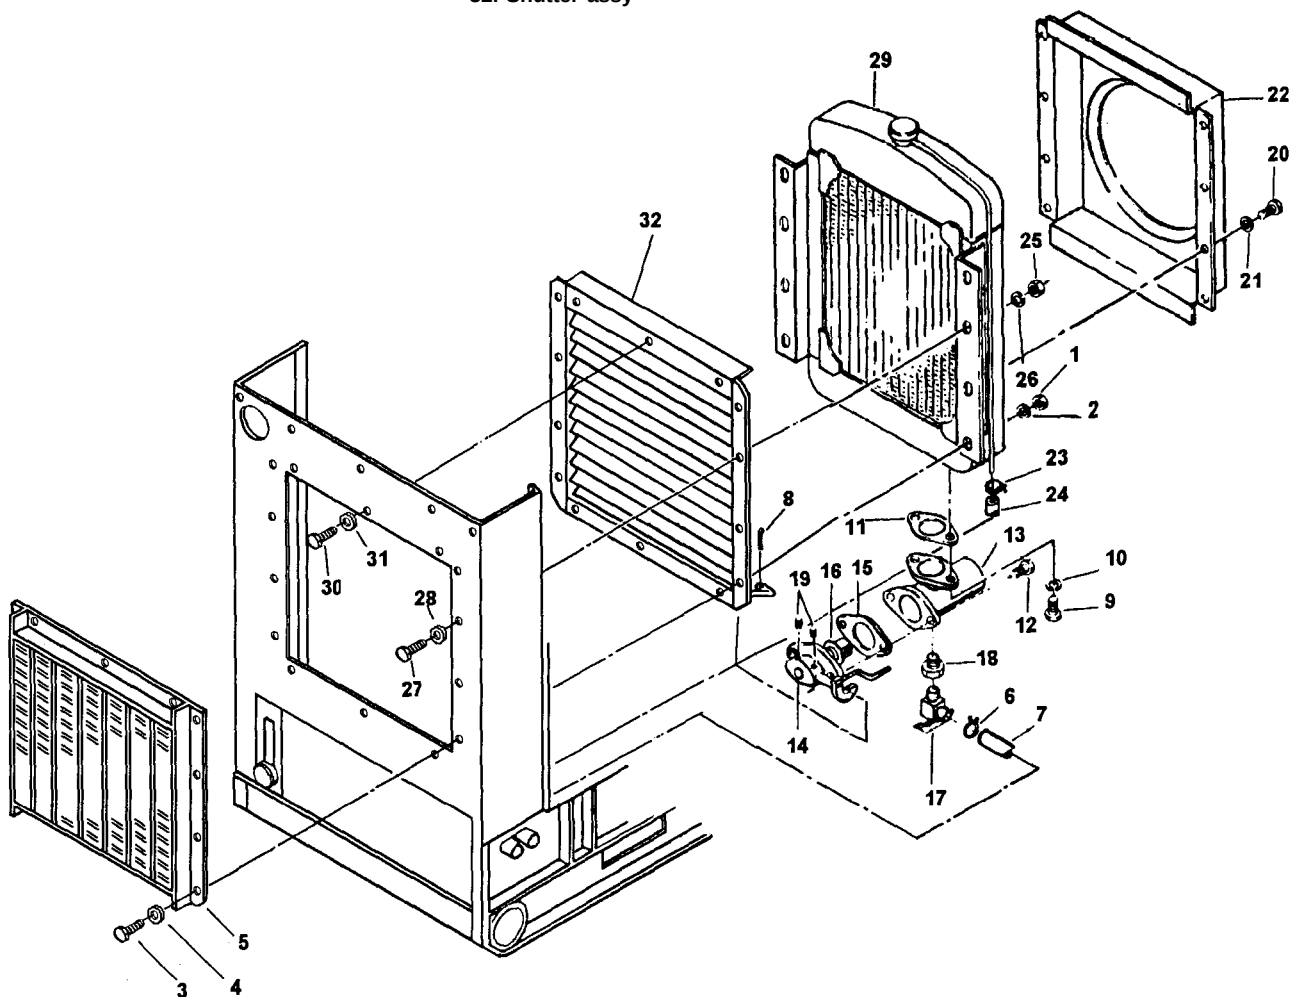
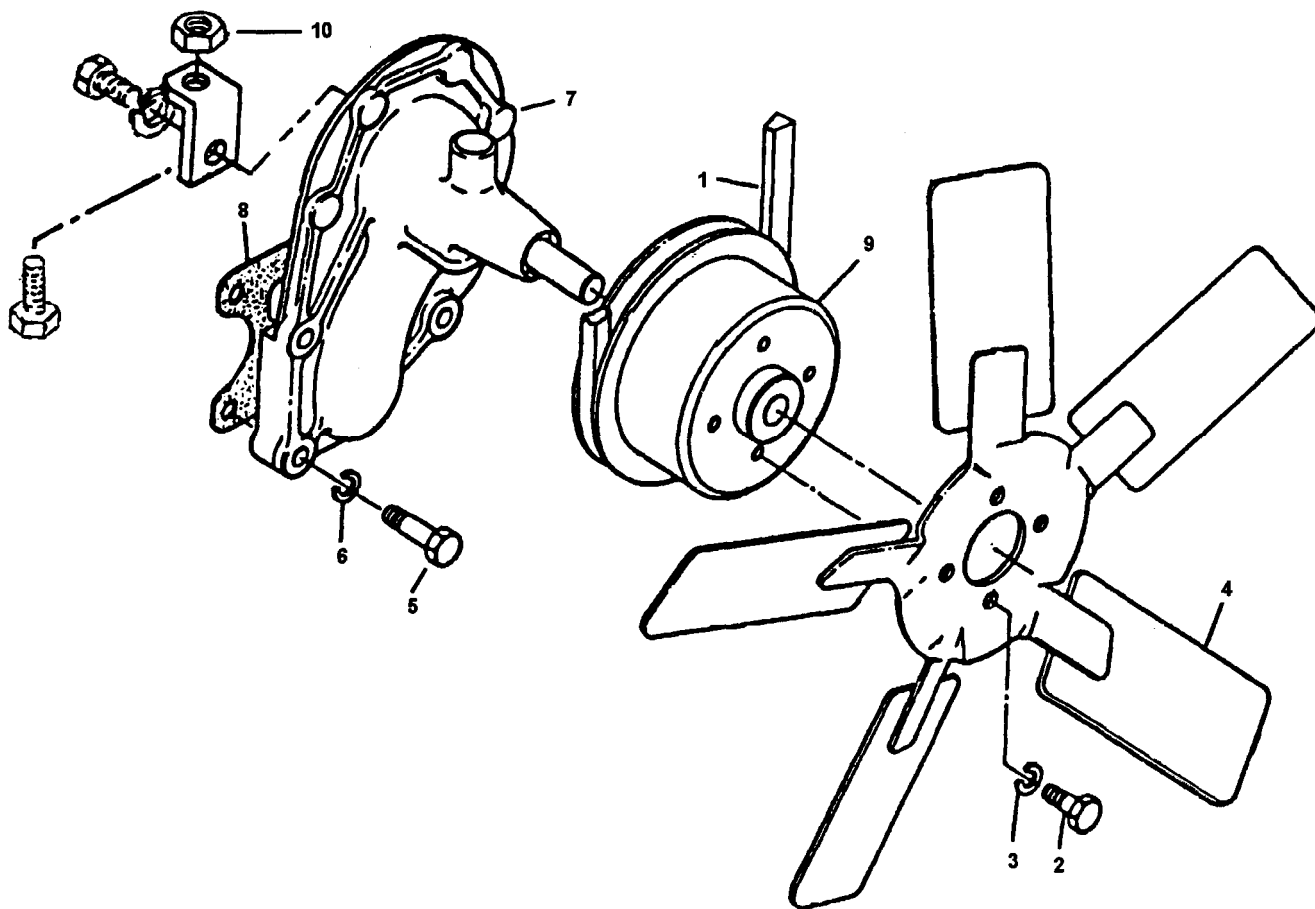

Figure 4-23. Grille, Radiator, and Shutter Assembly, Exploded View
Figure 4-25. Water Pump, Cooling Fan and V-Belt, Removal and Installation
- a. Removal. Remove nuts (1, Figure 4-23), lockwashers (2), screws (3), flatwashers (4) and remove grille (5).
- (1) Clean grille with a mild soap and water solution, rinse with clean water and dry thoroughly.
- (2) Inspect grille for cracks, corrosion, broken welds, dents, and other damage.
- (1) Repair grille by straightening cross members and removing minor dents.
- (2) Replace grille if damaged beyond simple repair.
- d. Installation. Install grille (5, Figure 4-23), flatwashers (4), screws (3), lockwashers (2), and nuts (1).
- (1) Drain radiator and disconnect radiator hoses (paragraph 3-27).
- (2) Loosen clamp (6, Figure 4-23) and remove drain tube (7).
- (3) Remove cotter pin (8) to disconnect shutter control linkage.
- (4) Remove screws (9) and Lockwashers (10) to remove control assembly and gasket (11). Discard gasket.
- (5) Remove screws (12) to separate thermostat housing (13) from linkage (14).
- (6) Remove gasket (15) and thermostat (16). Discard gasket.
- (7) Do not remove drain cock (17) and adapter bushing (18) unless damage is present and replacement is necessary.
- (1) Loosen setscrews (19, Figure 4-23). Push upon shutter control linkage manual control until shutter vanes are sealed, then tighten setscrews.
- (2) If removed, install adapter bushing (18) and draincock (17).
- (3) Install thermostat (16) and new gasket (15).
- (4) Attach linkage (14) to thermostat housing (13) and secure with screws (12).
- (5) Install control assembly and new gasket (11), lockwashers (10), and screws (9).
- (6) Connect shutter control linkage and install cotter pin (8).
- (7) Install drain tube (7) and tighten damp (6).
- (8) Connect radiator hoses and install attaching hose dampers and refill radiator.
- (1) Remove front top housing panel and doors (paragraph 4-85).
- (2) Remove shutter control thermostat and housing (paragraph 4-37).
- (3) Remove fan guards (paragraph 3-31).
- (4) Loosen clamps (23, Figure 4-23) and disconnect overflow tube (24).
- (5) Remove grille (paragraph 4-36),
- (6) Remove nuts (25, Figure 4-23), lockwashers (26), screws (27) and flat washers (28) to remove radiator (29).
- (1) Position radiator (29, Figure 4-23), to install flat washers (28), screws (27), lockwashers (26), and nuts (25).
- (2) Install grille (paragraph 4-36).
- (3) Connect overflow tube (24, Figure 4-23) and tighten clamps (23)